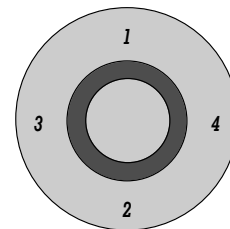

Fig. Z3
- D. Tighten the nuts by hand until they are snug. Establish uniform pressure over the flange face by tightening the bolts in 5 ft-lb increments according to the sequence shown in Fig. Z3 following a 180° opposing sequence.